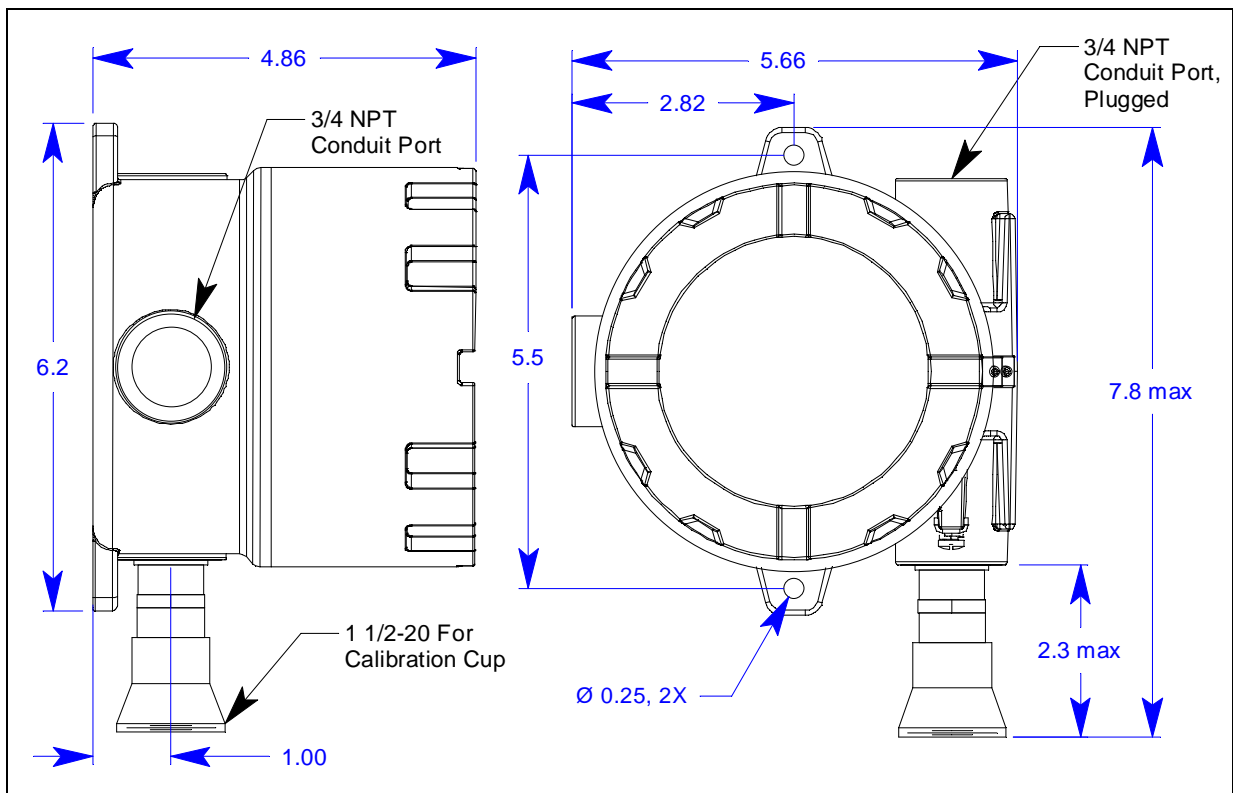
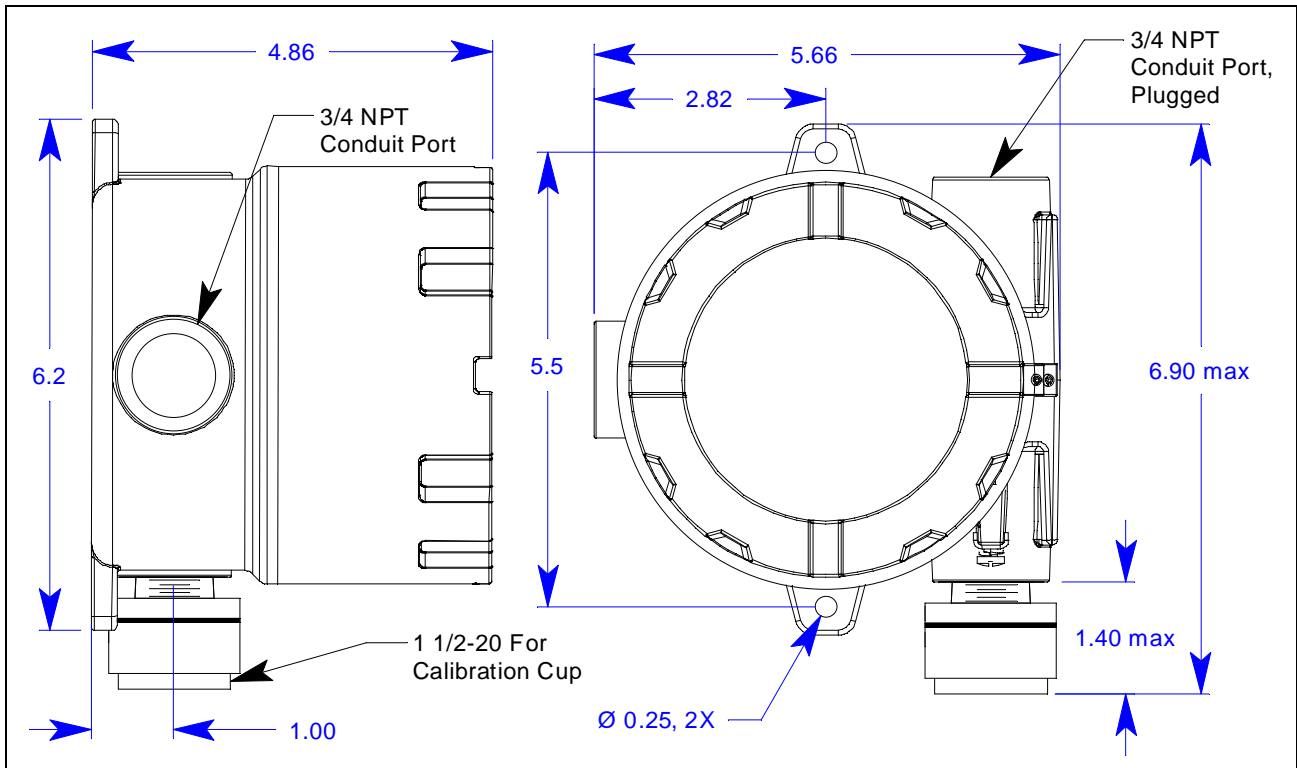

Figure 14: Outline & Mounting Dimensions, Catalytic LEL and ppm, UL Version
Figure 21: Outline & Mounting Dimensions, CT-7 Series
2. At the monitoring site, use #10 screws through the junction box's two mounting holes to secure the junction box to a vertical surface. Figure 14 - Figure 21 show the outline and mounting dimensions for each version of the M2A-XL. Mount the M2A-XL with the detector facing down as shown in the following figures.